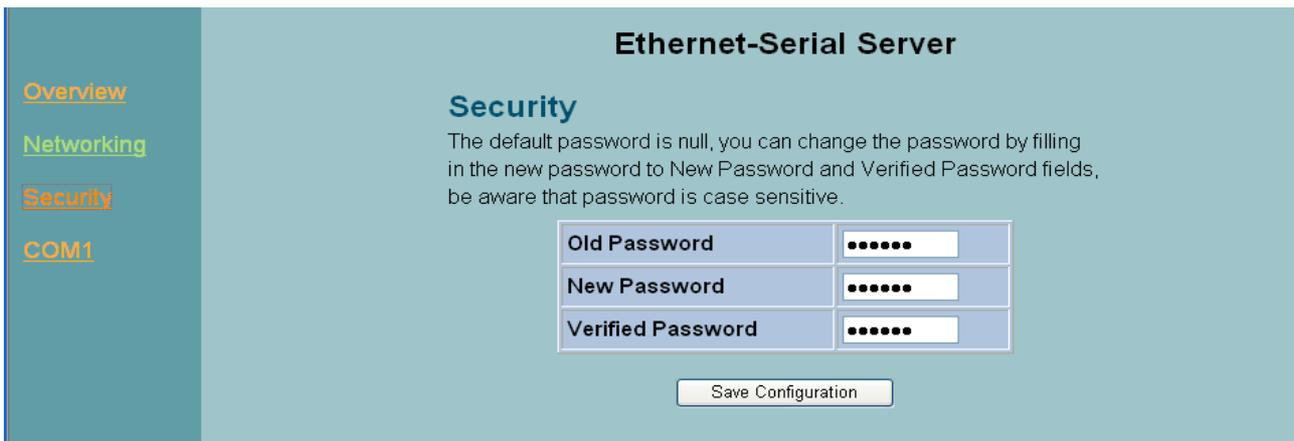

Figure 3.19 Change the password
1. Click on the "**Security**" link and the following screen appears.(ref Figure 3.19)